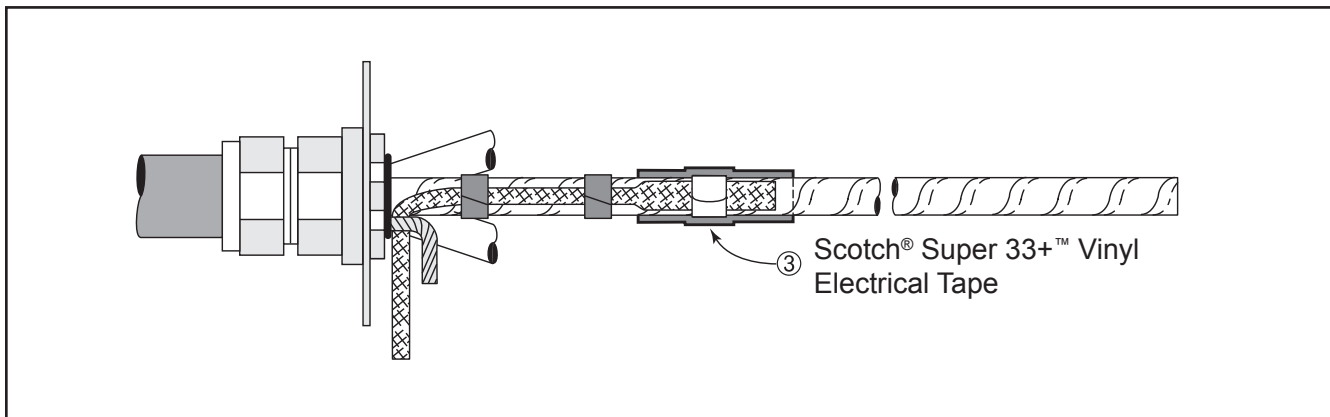

Figure 4
- 2.3 Apply two highly stretched half-lapped layers Scotch® Super 33+™ Vinyl Electrical Tape over constant force springs and ground strap ends (③ Figure 4).